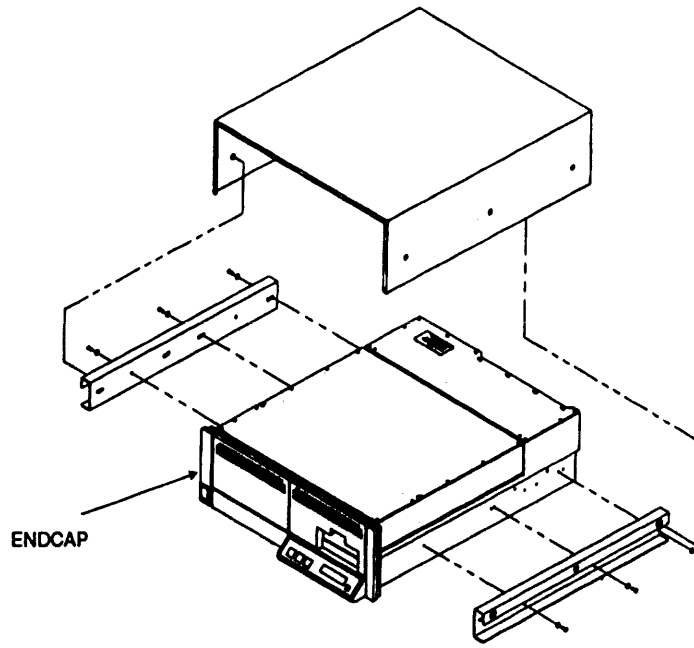
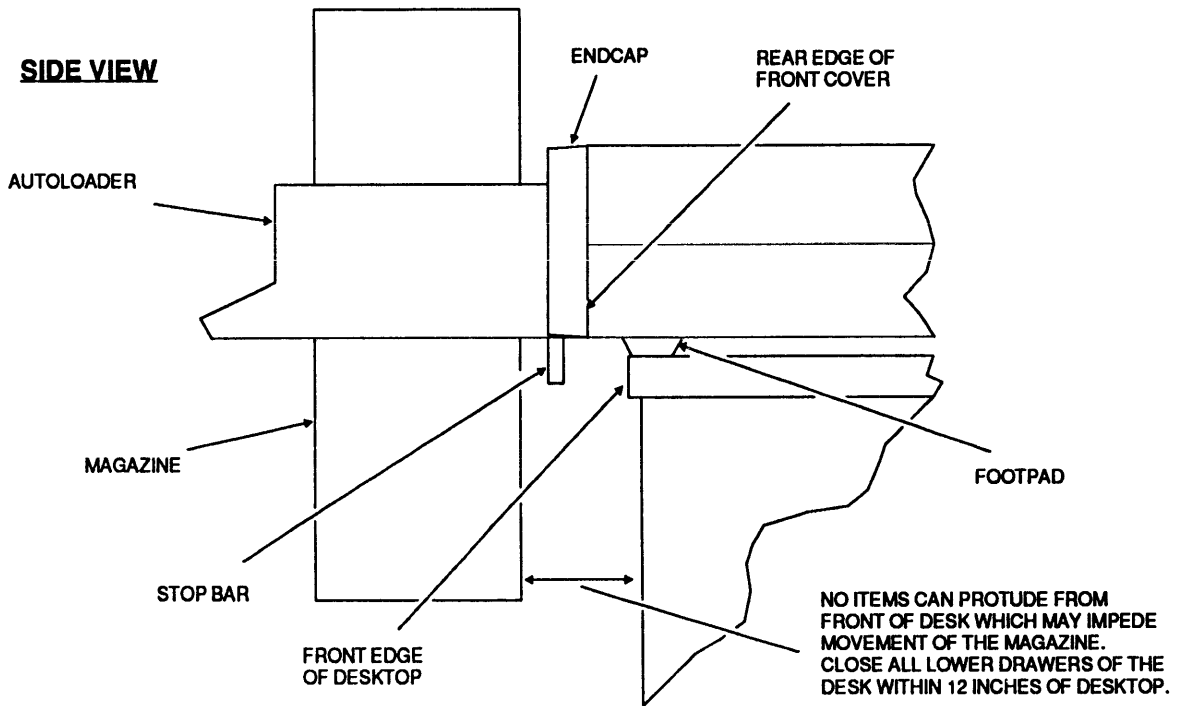

Figure 2.
Figure 3.
To allow for proper operation of the autoloader and magazine when you install the unit on a tabletop or desktop, position the unit so that the stop bar does not set on the table. The stop bar can be flush with the table front, but cannot sit on the tabletop. There should be not obstacles above or below unit which extend more than 1 inch beyond edge of desktop (Figure 3).
You may install a unit on top of a desk or table instead of in a rack. (Refer to Figures 2 and 3.) If the unit has autoloader, observe the restrictions described in sections 3.4. and 3.5., and Figure 3.
Clearance from rear of unit to the wall must be 4.5 inches minimum to prevent cables from being crimped as they exit the machine. Refer to Figure 3 for restrictions on front clearance.
1. Move the window of the middle section so that the two adjusting screws on the front bracket show. Loosen these screws and adjust the bracket so that it is flush with the outer rail. Tighten the two screws. (Refer to Figure 3, Detail A.)
2. Slide the middle rail forward and remove the rear bracket of the outer section. (Refer to Figure 3, Detail B.)
To determine where to install the slide rails on the cabinet, count the holes in the rear flange of the cabinet, down from the panel or unit above. Insert the 10 - 32 Phillips head screws, with a #10 external tooth star washer on each screw, through holes nine and ten, leaving the head of the screw toward the rear of cabinet. (Refer to Figure 3, Detail C.)
4. Mount the rear bracket to the rear cabinet holes with the bracket pointing toward the rear of cabinet. Secure the bracket with two 10 - 32 Phillips head screws (that you inserted in the previous step) going through cabinet hole first, then the bracket, and finally into the bar nut. (Refer to Figure 3, Detail C.)
5. Mount the slide rail to the rear bracket, but don't tighten the screws (Figure 3, Detail C).
6. Mount the front bracket to the front of the cabinet behind the front cabinet holes, pointing toward the rear of the cabinet. Secure the bracket with two 10 - 32 Phillips head screws going through the cabinet hole first, then the bracket, and finally into the bar nut. (Refer to Figure 3.)
5. The endcap (refer to Figure 2) on each side of the 4220 should be popped off. Insert a 10 - 32 screw through the hole of the 4220 and into the clipnut, securing the 4220 to the cabinet. This should be done on both sides of the 4220. Replace both endcaps.